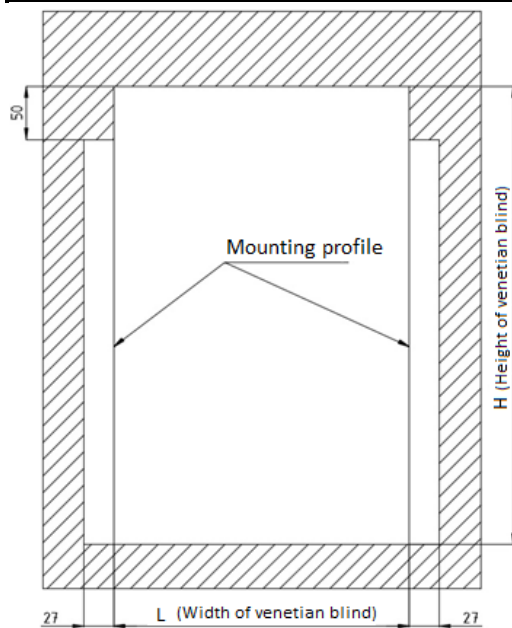

Fig. 2. Installation of mounting profile in window niche.
- Installation of the profile is shown in Fig. 2.